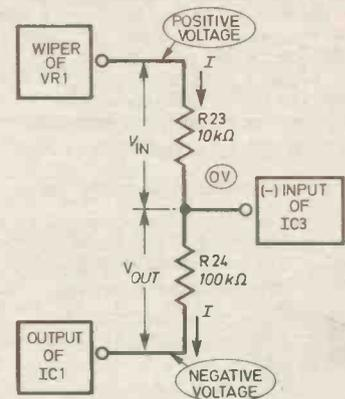

Fig. 12.2. The resistors of the inverting amplifier re-drawn as a potential divider. The current flowing to the (-) input can be ignored as it is very small.
We can think of R_{23} and R_{24} as a potential divider (Fig. 12.2). For any given value of V_{IN} , the amplifier adjusts V_{OUT} until the voltage at the inverting input (-) is exactly 0V. In effect, if V_{IN} is a positive voltage, a current flows from the input of VR_1 , through R_{23} , R_{24} , and into the output of IC_1 . If this current is I , and knowing that the p.d.s. are as shown in Fig. 12.2, we can calculate that:
- 12.4. If a circuit is set up as in Fig. 12.2, but with three inputs, and the input voltages are 1.2V, 0.4V and -1.1V, what is the output voltage?